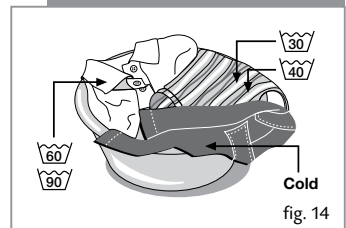

fig. 14
- Sort your clothes according to colour (Figure 14).